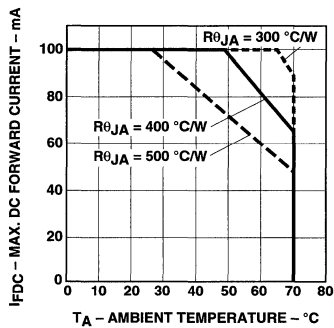

Figure 4. Maximum DC Forward Current vs. Ambient Temperature. Derated Based on $T_{JMAX} = 110^{\circ}C$.
1. Derate linearly as shown in Figure 4.